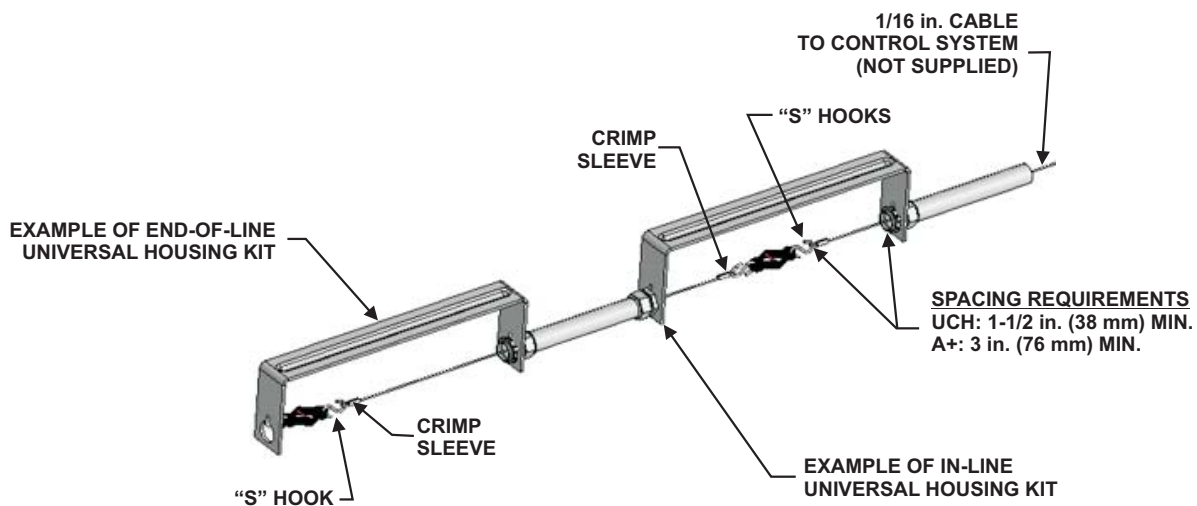

Figure 4-41. Universal Link Housing Installation
- Install detectors of proper rating as described in Paragraph 3-2.4. To install detectors, follow the steps below. Always start detector installation at the last detector (see Figure 4-41).